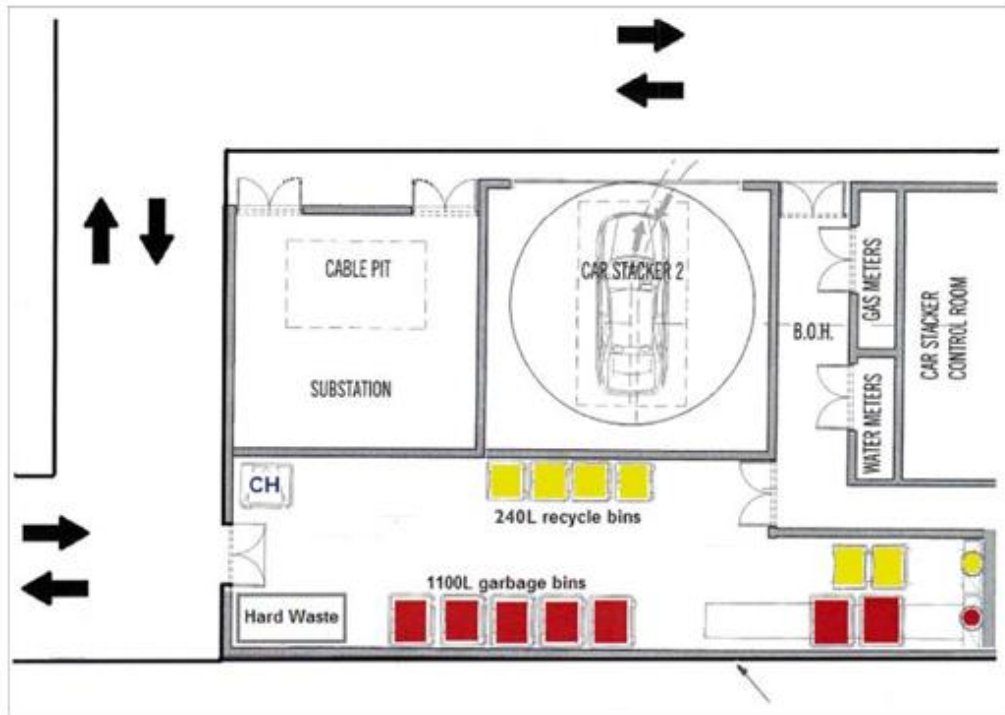

Figure 3 Example scaled waste management plan drawing of generic residential bin room.
- waste, recycling, and food waste bin numbers and sizes, colour coded per section 3 (figure 3)
- hard and green waste storage area (figure 3). Information about council's hard and green waste collection service can be found on our website at [http://www.portphillip.vic.gov.au/hard\\_green\\_waste\\_collection.htm](http://www.portphillip.vic.gov.au/hard_green_waste_collection.htm)
- charity skip / bin/s (figure 3)